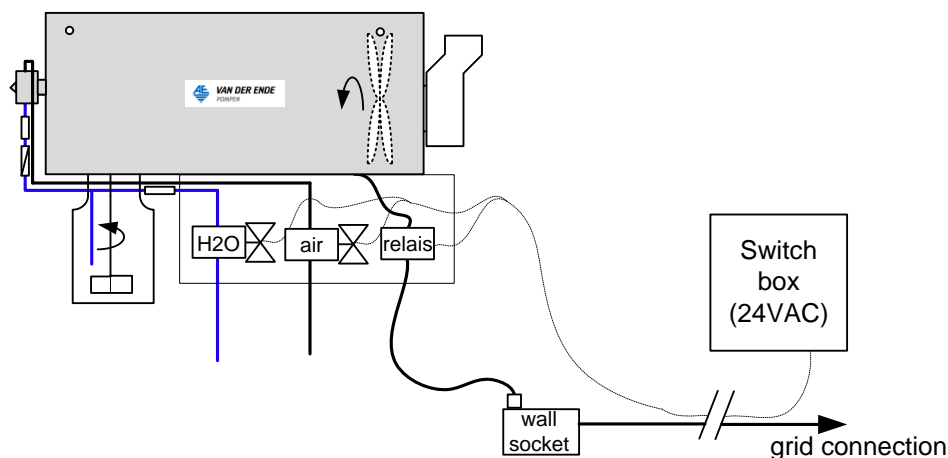

Figure 3 Installation of the Enbar, U1 type
- connect the Enbar to a 24 VAC control circuit using the special control current connector (11);
- See also figure 3 below and the electrical wiring diagram (page 40) in the annexes.